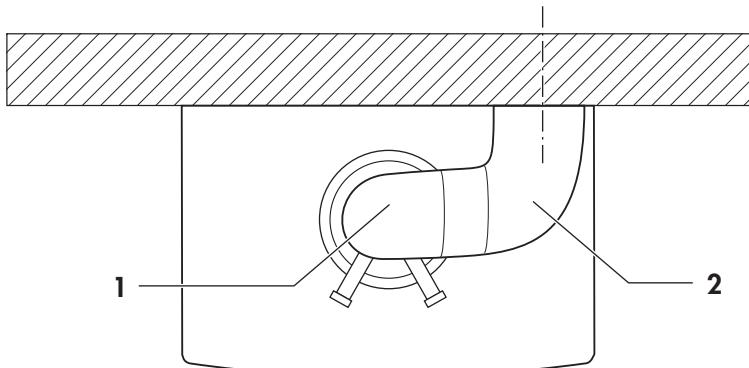
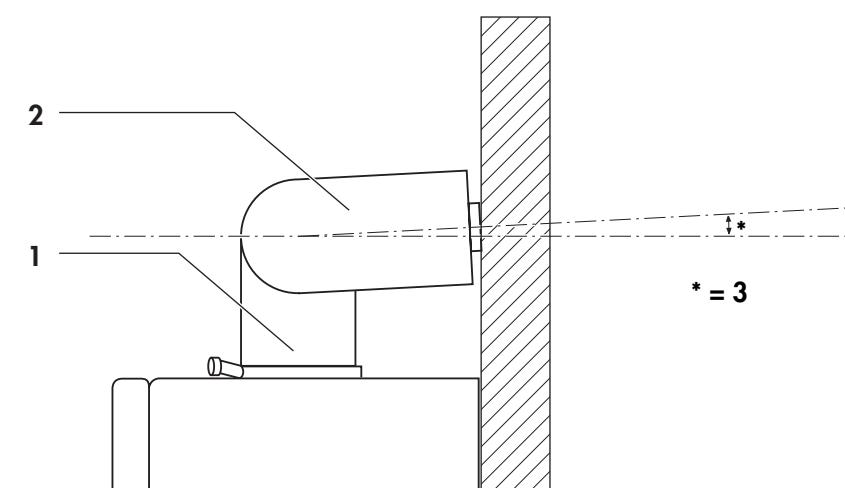

Fig. 6.1: Arrangement of 2 x 87° elbows – View from above
Fig. 6.3: Arrangement of 2 x 87° elbows – View from side
- When using 2 x 87° elbows follow fig. 6.1 to fig. 6.3 to avoid obstructions on outer wall.